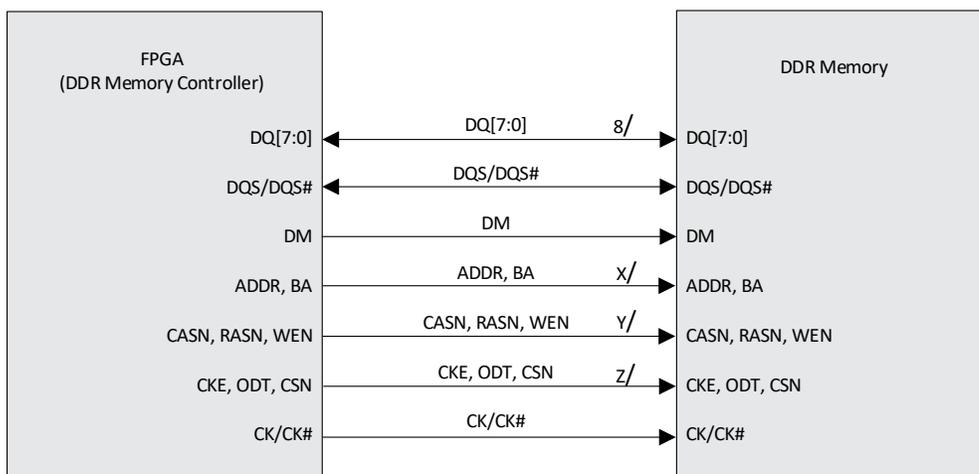
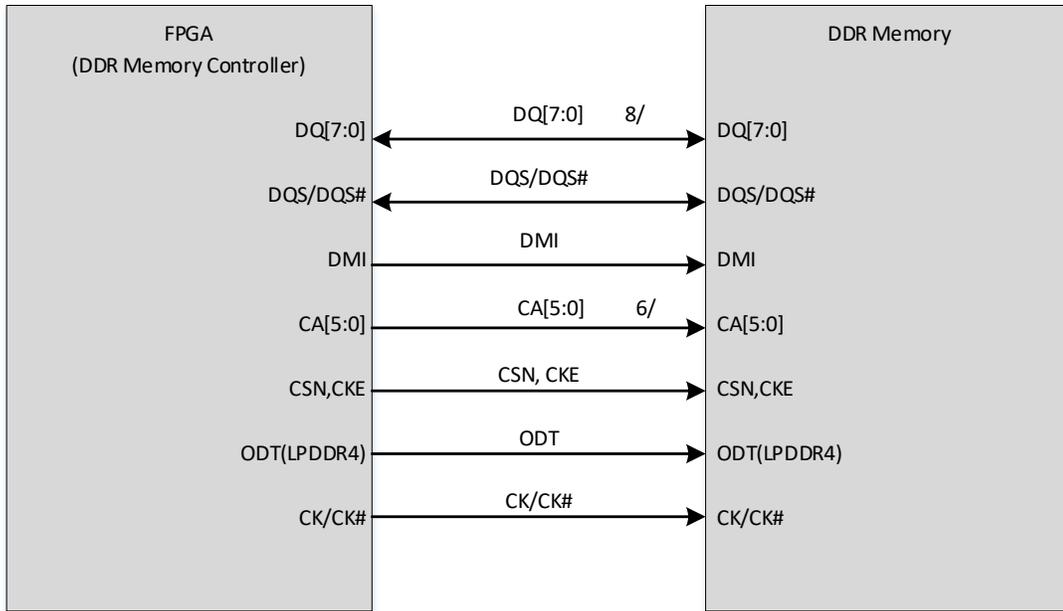

Figure 6.1. Typical DDR3/DDR3L Memory Interface
Figure 6.2. Typical LPDDR4 Memory Interface
Figure 6.1 and Figure 6.2 show typical DDR memory signals. DDR3, DDR3L, and LPDDR4 memory interfaces are typically implemented with eight DQ data bits per DQS. Therefore, a 16-bit DDR memory interface uses two DQS signals, and each DQS is associated with eight DQ bits, respectively. Both the DQ and DQS are bi-directional ports and are used to read and write to the memory.
DDR memories also require a Data Mask (DM) signal to mask data bits during write cycles. Note that the ratio of DQS to data bits is independent of the overall width of the memory. Figure 6.1 and Figure 6.2 show typical 8-bit interface that has eight associated DQ data bits per DQS strobe signal.